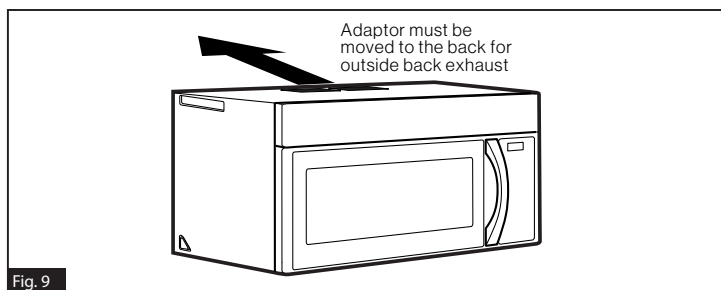

Fig. 9
C. Outside Back Exhaust (Horizontal Duct) (Fig. 9)